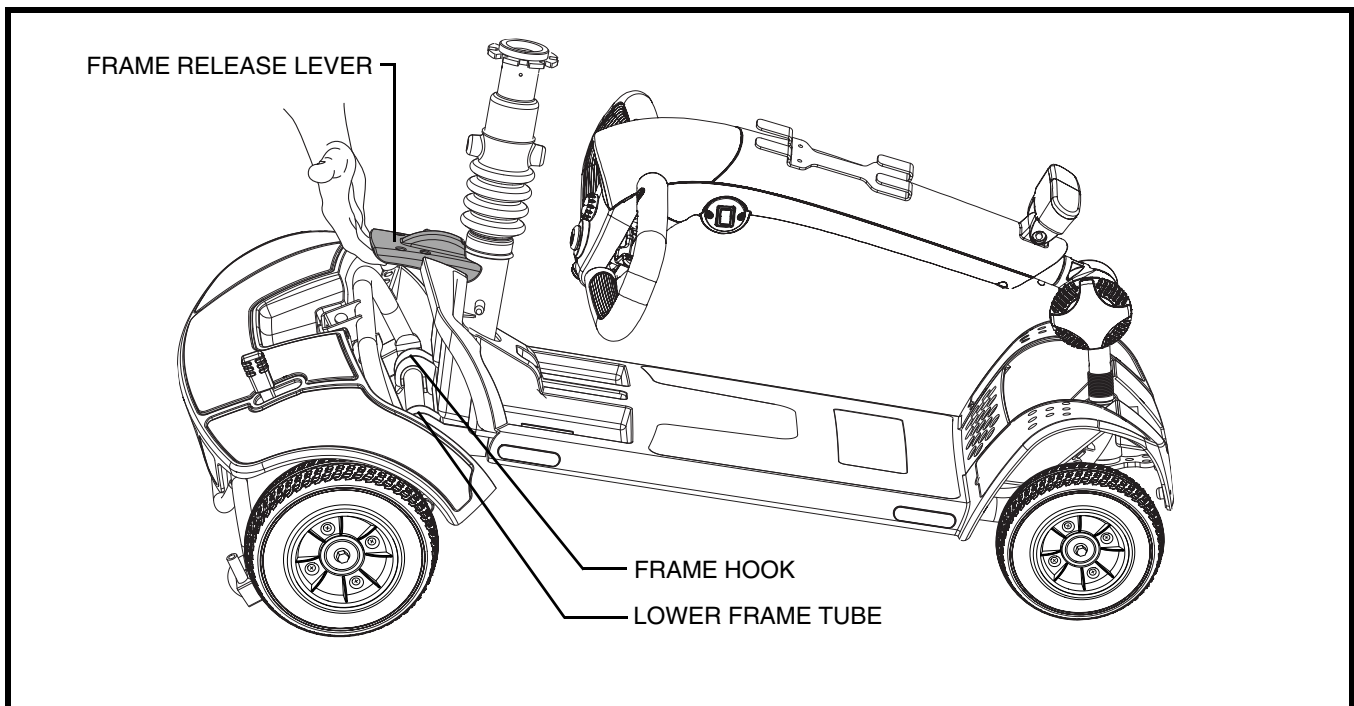

Figure 25. Frame Release Lever
3. Slowly separate the two sections of the Travel Scooter. See **figure 25**.
NOTE: Before attempting assembly, tilt the rear half of the Travel Scooter slightly back on the anti-tip wheels as show in figure 25.
1. Use the frame release lever to lift the front section as you align the frame hooks of the front section with the lower frame tube of the rear section. See **figure 25**.